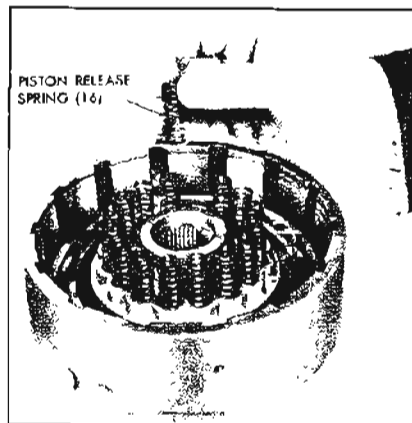

Figure 5-605
6. Remove the tools, snap ring, spring retainer and sixteen clutch release springs. See Figure 5-605.